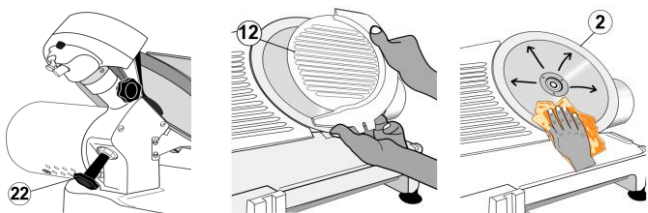

FIG 12. STEPS FOR KNIFE CLEANING
E. KNIFE (See Fig. 12).
- 1.- Loosen the knife guard knob (22) by turning it counter clockwise. Knob's at the backside of slicer.
- 2.- Remove the knife guard plate (12) (lifting up using both hands).
- 3.- With **extreme caution**, wipe all the knife (2) towards outside (from center). Spray, clean and dry as necessary.